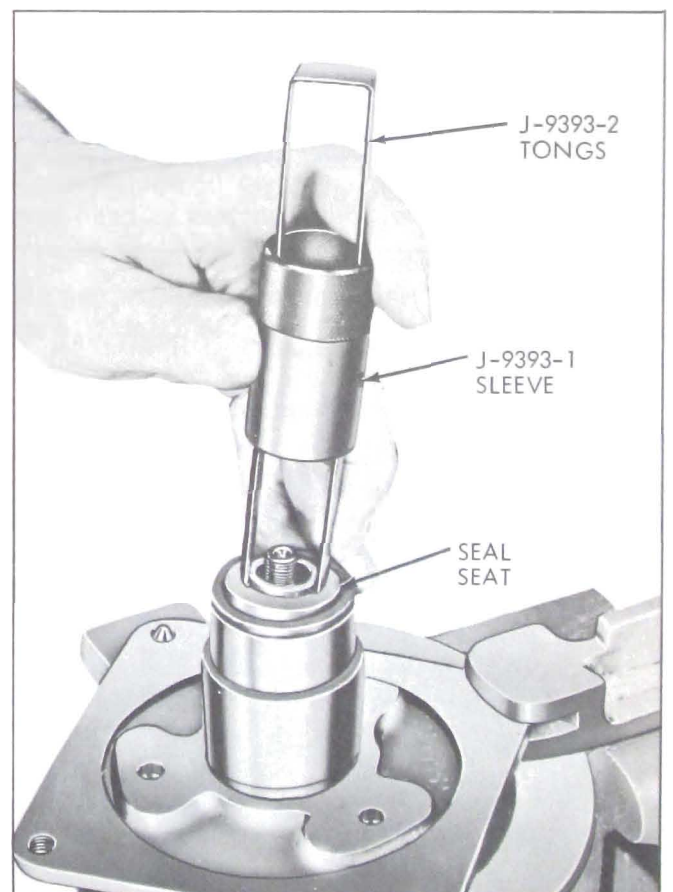

Figure 11-88—Removing Shaft Seal Seat
3. Remove shaft seal seat, using J-9393-1 and 2 to grasp flange on seal seat. See Figure 11-88. Pull straight out at end of tool to remove seal seat.